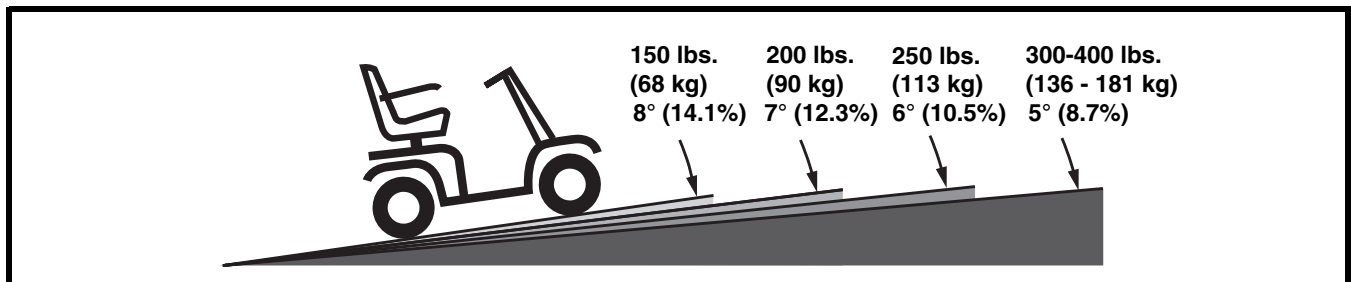

Figure 1. Maximum Recommended Incline Angles
**WARNING! Even though your PMV is capable of climbing slopes greater than those illustrated in figure 1, do not, under any circumstances, exceed the incline guidelines or any other specifications presented in this manual. Doing so could cause instability in your PMV.**
Handicap public access ramps are not subject to government regulation in all countries, and therefore do not necessarily share the same standard degree of slope. Other inclines may be natural or, if man-made, not designed specifically for PMVs. Figure 1 illustrates your PMV's stability and its ability to climb grades under various weight loads and under controlled testing conditions.
**WARNING! Any attempt to climb or descend a slope steeper than what is shown in figure 1 may put your PMV in an unstable position and cause it to tip.**